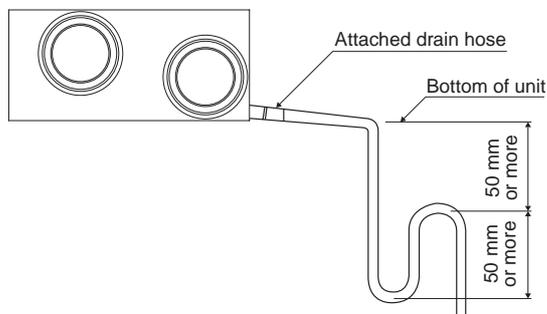

Fig. 7-1
(1) Install the drain piping.
- In case of the direct duct connection system, there is negative pressure inside the unit relative to atmospheric pressure when the unit is running, so be sure to provide drain trap on the drain outlet. (See Fig. 7-1)